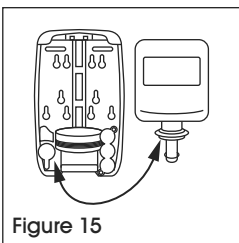

Figure 15
2. Check that the color of refill collar key matches color key located immediately below status light. (See Figure 15)